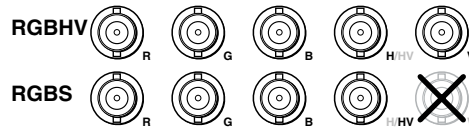

Figure 3. Video Output Connection Format
- ❷ **RGB PASS-THRU connectors** — Connect a high resolution or computer input (VGA, SVGA, XGA, SXGA, or UXGA) to these female BNC connectors.
- ❸ **OUTPUT connectors** — Connect an RGB video display or other device to these female BNC connectors (see figure 3 to connect the RGB video format for each configuration).